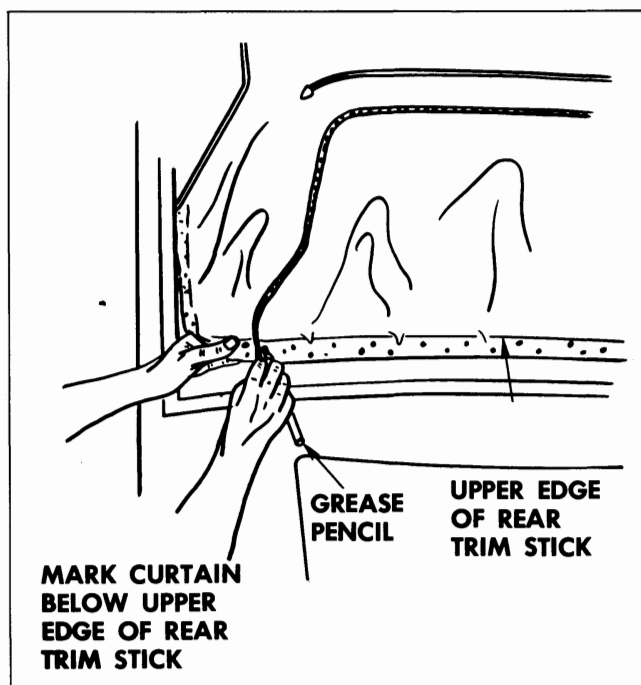

Fig. 21-36 Locating Edge of Top Material
5. To establish the relationship of right and left inner vertical edge of old top material to back curtain assembly at rear trim stick location, mark back curtain vinyl at both locations with a grease pencil (Fig. 21-36). Reference marks should be transferred to new back curtain when step 4 of installation procedure is performed.